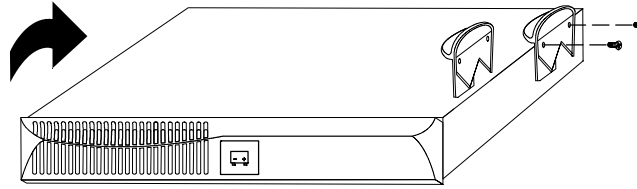

Figure 7. Installing EBM Pedestals
6. Place the EBM cabinet upside down so that the right end of the unit is accessible (see Figure 7).